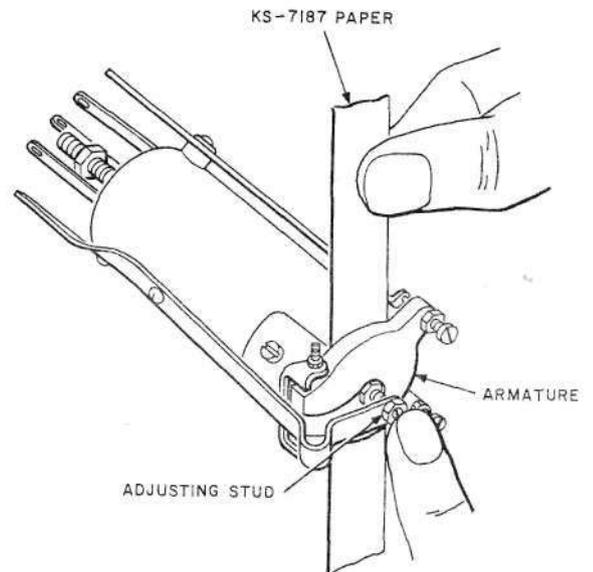

Fig. 48—Method of Cleaning Armature and Shell on 114- and Similar-Type Relays
7.06 *Armature and Shell on 114-, 124-, 126-, 174-, and 198-Type Relays:* Insert KS-7187 paper between the armature and shell as indicated in Fig. 48. Operate the relay manually and withdraw the paper. Repeat the operation until all surfaces between the armature and shell have been cleaned and the paper shows no evidence of dirt when it